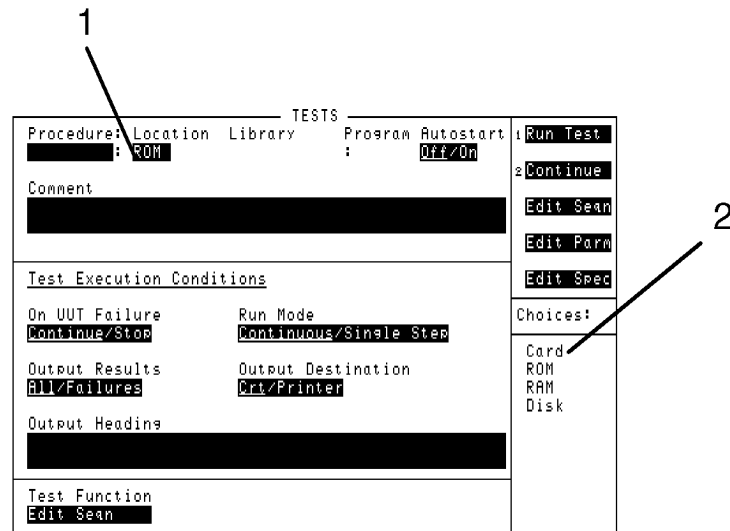

Figure 8-2 Loading a Test Procedure
- 1 Press the front-panel **TESTS** key and select the **Location** field. Refer to item (1), see Figure 8-2 on page 8-12.
- 2 Choose the location (Card, ROM, RAM, or Disk) where the Test Procedure is found. Refer to item (2), see Figure 8-2 on page 8-12. (The location you select appears in the field (1) area.)